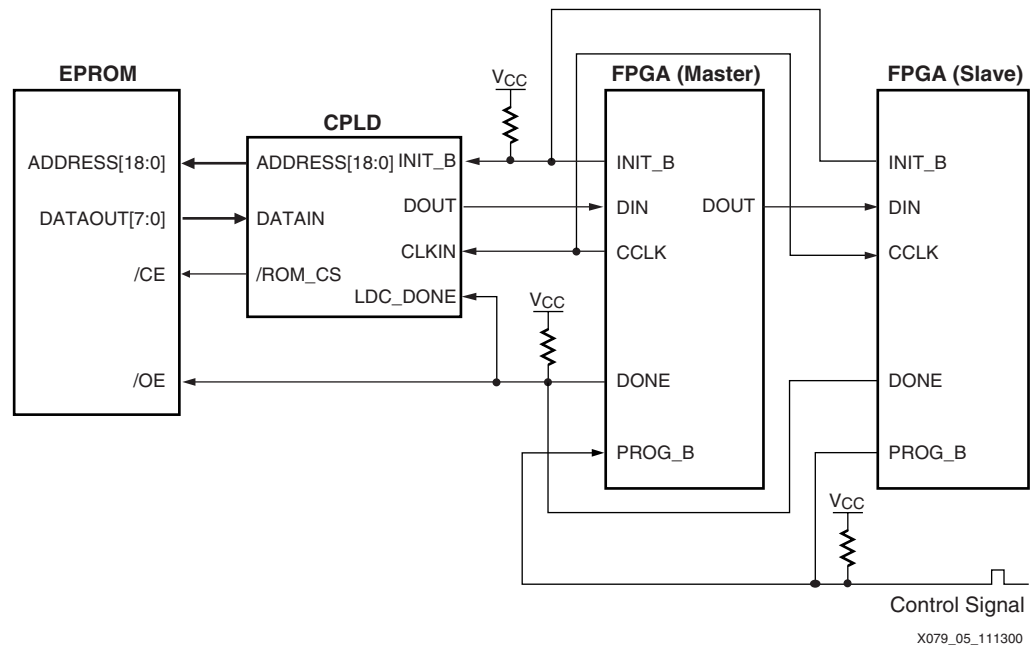

Figure 3-8: Configuring Virtex-II Pro Devices Using a CPLD and Parallel PROM
- XAPP079, *Configuring Xilinx FPGAs Using an XC9500 CPLD and Parallel PROM* ([www.xilinx.com/apps/xappsumm.htm#xapp079](http://www.xilinx.com/apps/xappsumm.htm#xapp079)) describes an architecture that configures a chain of Virtex-II Pro devices using Master-Serial mode. See Figure 3-8 for an example of FPGA configuration using a CPLD and a parallel PROM.